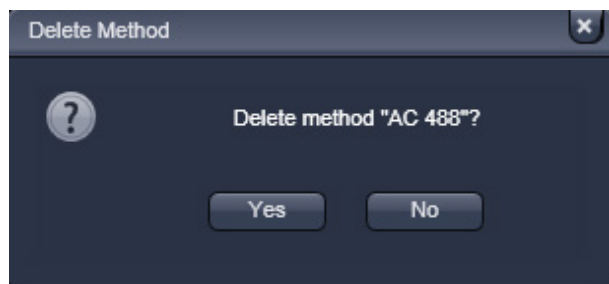

Fig. 337 Delete Method panel
- The **Delete Method** panel will appear requesting confirmation of this action (Fig. 337). Press **Yes** to delete the method from the data base, **No** to keep the method.